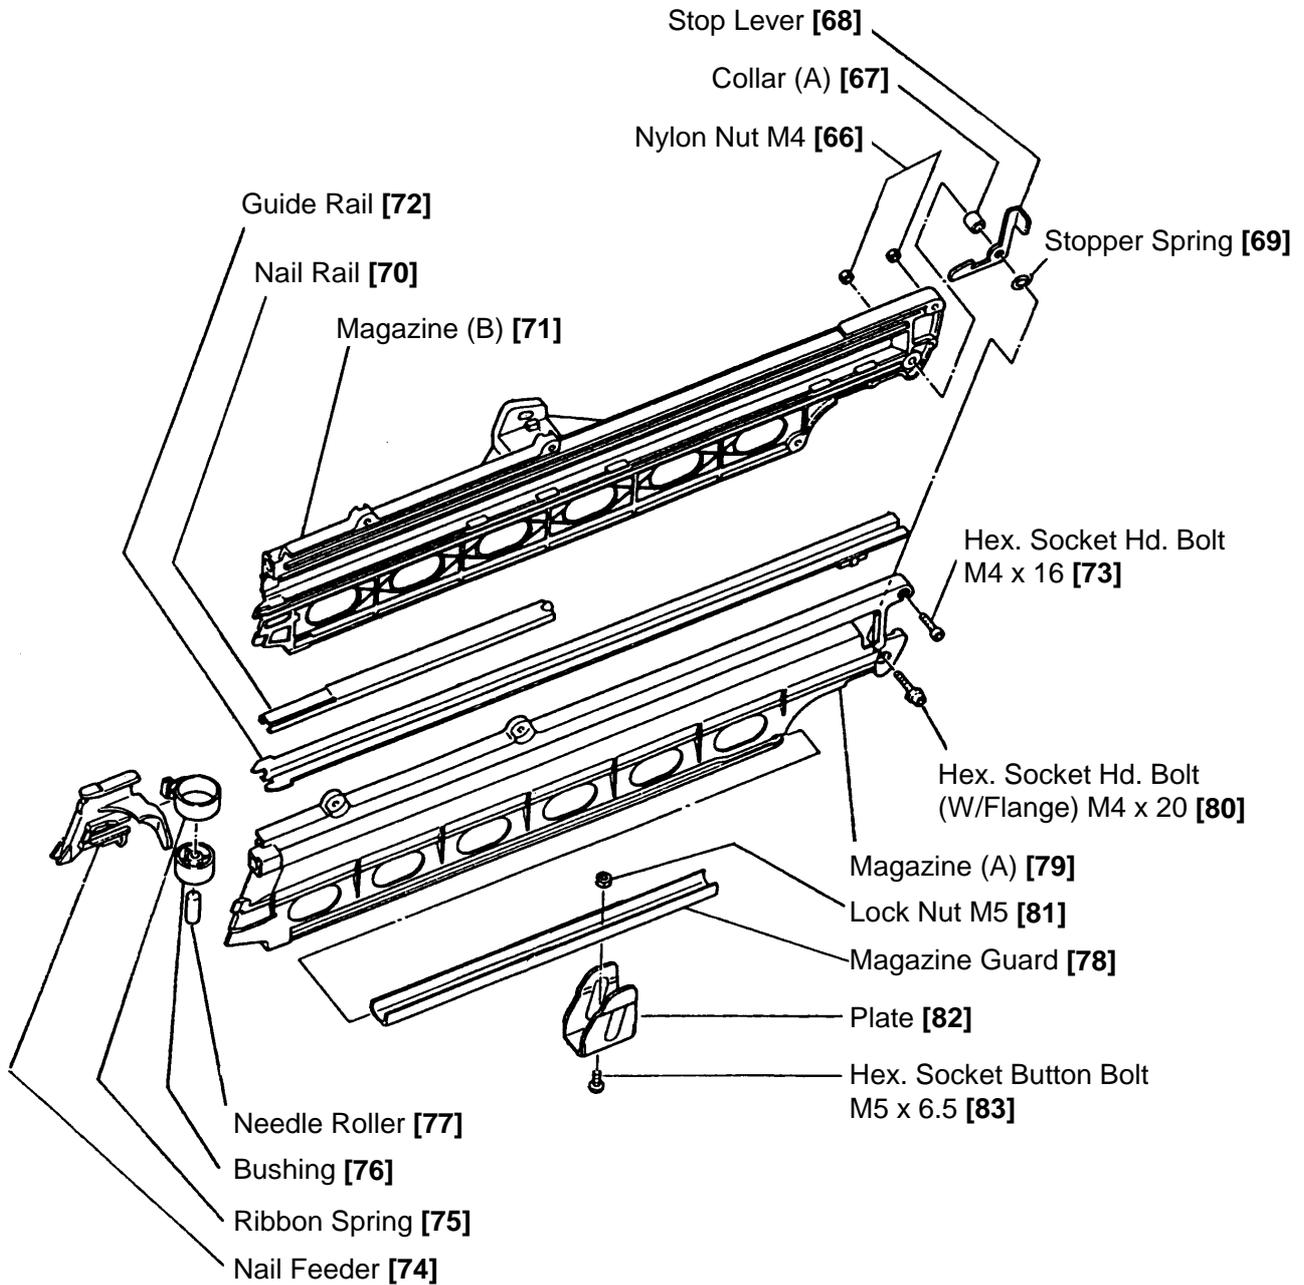

Fig. 18 Disassembly and Reassembly of the Magazine Section
(2) Disassembly and reassembly of the magazine section (See Fig. 18)